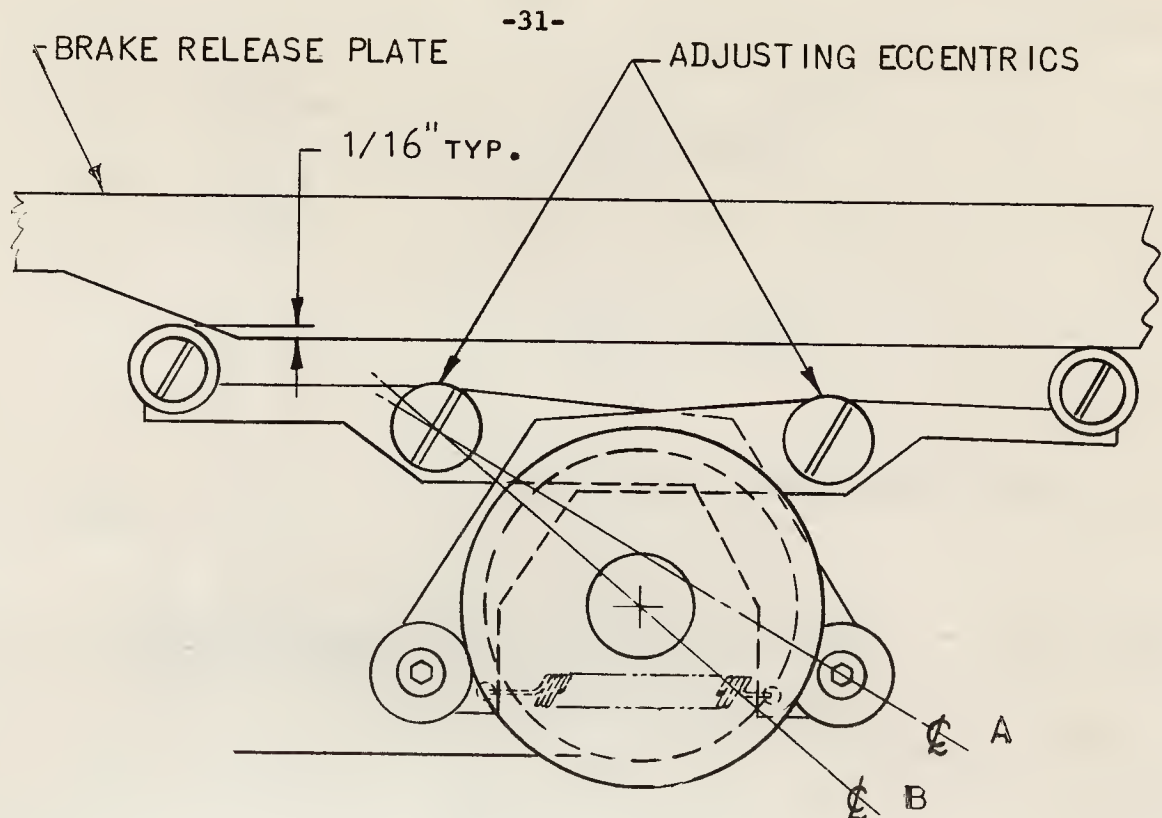

FIG. 21
(C) No. 1 Finger Brake (Fig. 21)